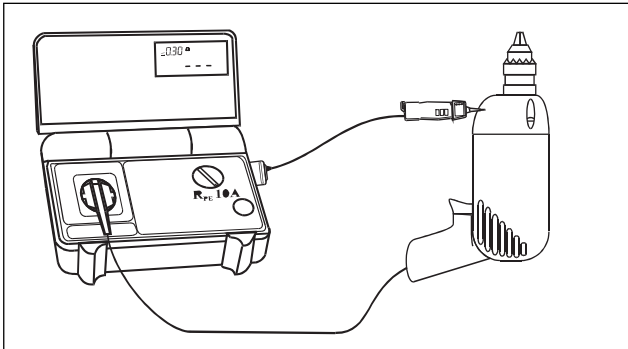

Fig.7.9
- Connect test probes of COMMANDER 1 (with measurement accessories, if required) to UUT, as shown in figure 7.9: